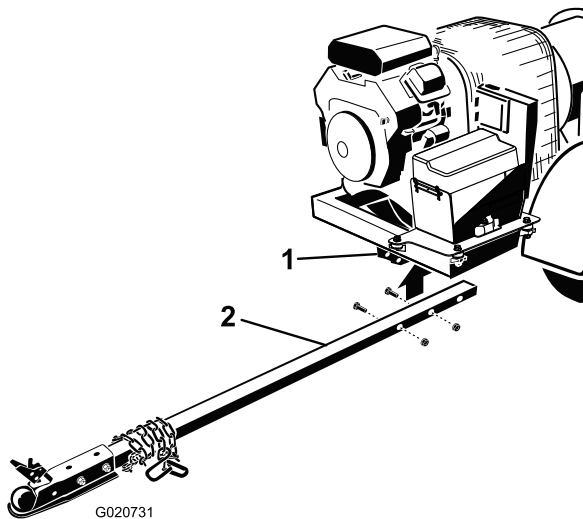

Figure 6
2. Insert the hitch tube into the frame brackets (Figure 6). Secure the tube to the frame with 2 bolts (3/8 x 3 inches) and flange nuts (3/8 inch).